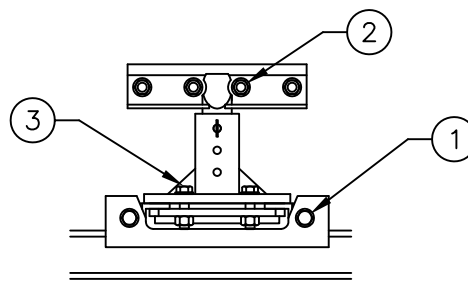

Figure 2
- Step 7: Tighten the bolts in the order shown in figure 2. **DO NOT USE AN IMPACT WRENCH** on the bolts to prevent damage to the threads.